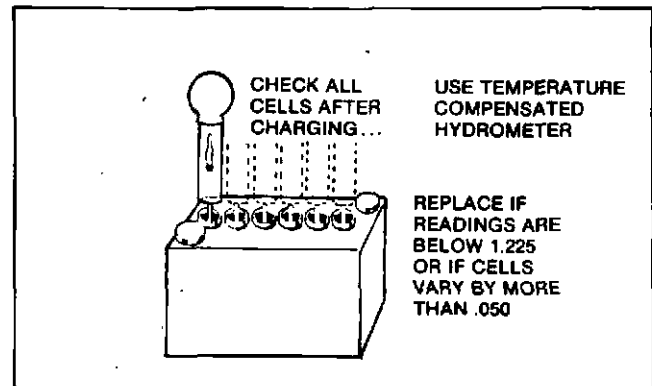

Fig. 66 — Checking 12V Battery Cells (Lead Acid — Wet Cell — Dry Charge)
The dry charge battery is manufactured with fully charged plates. Electrolyte must be added at the time that the battery is placed in service. Before activating a dry charge battery, read and follow the manufacturer's recommended procedure. Fig. 66.
3. With battery fully charged, check specific gravity readings of each cell with a Battery Hydrometer and record readings (Fig. 66). All readings should be above 1.250 (compensating for temperature). If specific gravity readings varied .050 or if **ALL** cells read less than 1.225, replace battery.